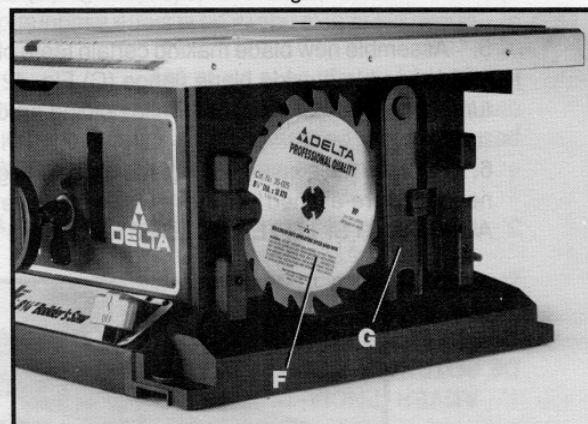

Fig. 45
3. Spaces are provided on the right side of the saw cabinet to store saw blades (F) Fig. 45, and blade wrenches (G) as shown.